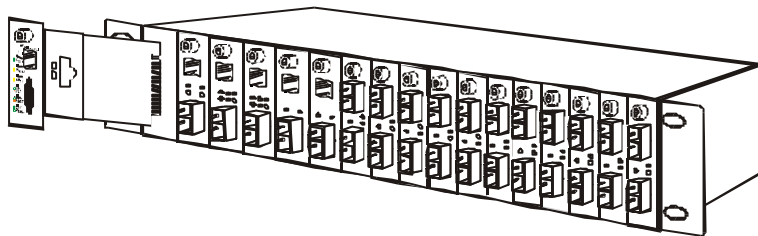

Figure 1. Slide in the management module in the first slot of the chassis system.
The chassis's first slot is for the management module as illustration on figure 1.
-  Install the management module into the chassis. (Figure 1)